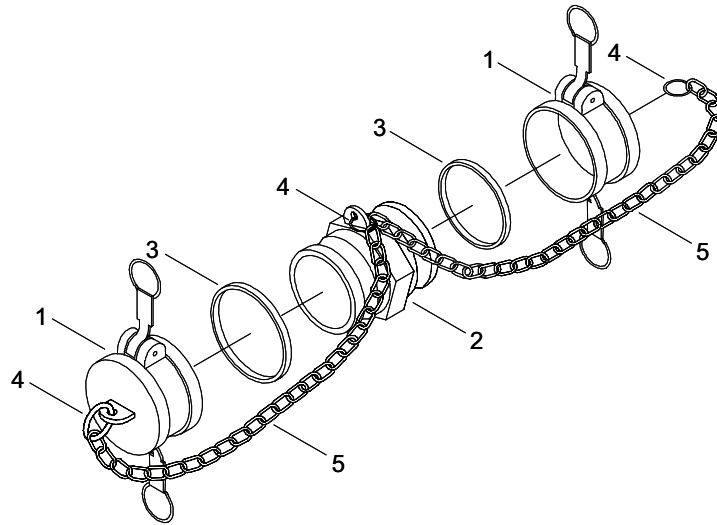

Figure 1. 4 In. Double Male Adapter Assembly.
1. Remove dust caps (Figure 1, Item 1) from adapter assembly (Figure 1, Item 2).
2. Remove gaskets (Figure 1, Item 3) from dust caps (Figure 1, Item 1).
3. Discard gaskets (Figure 1, Item 3).
4. Remove split rings (Figure 1, Item 4) from dust caps (Figure 1, Item 1) and adapter assembly (Figure 1, Item 2).
5. Remove split rings (Figure 1, Item 4) from chains (Figure 1, Item 5).